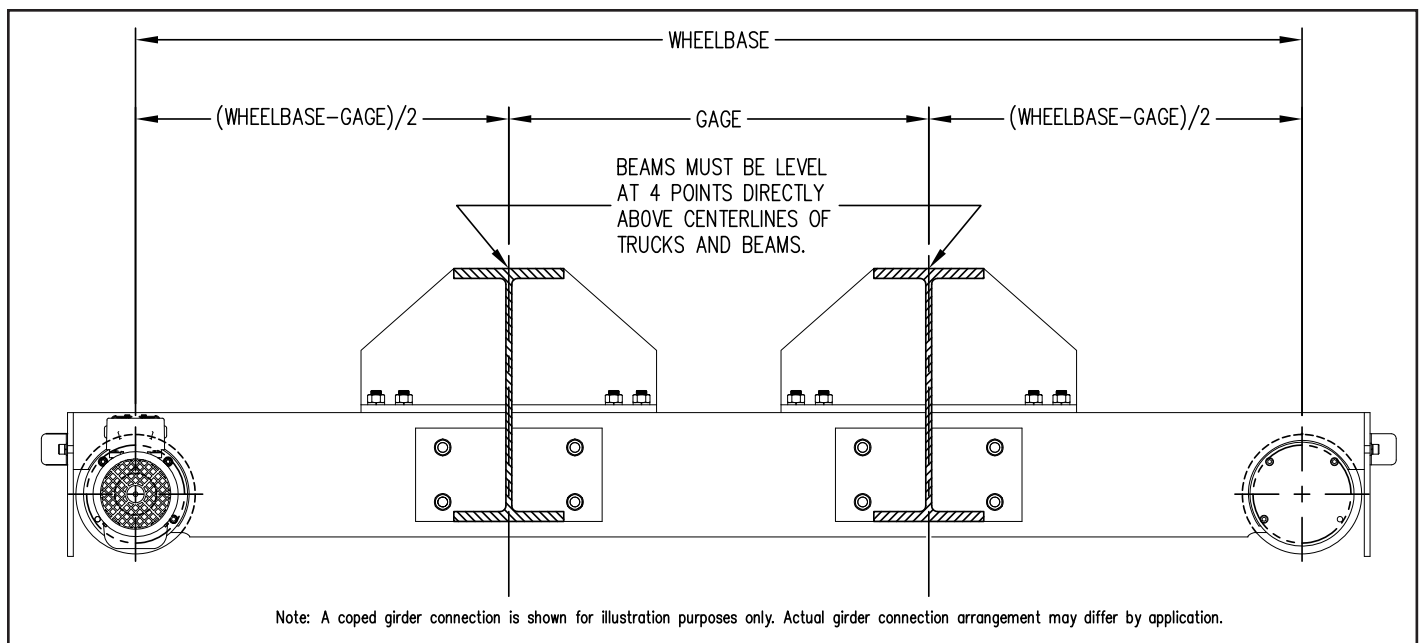

Figure 6. Method of Setting End Truck to Girders
After preparing the connection plates for welding, weld the girder beam on the top connection plate for top mounted girders. For coped girders, weld the girder on both the top and side mounted connection plates. Bottom of the girder beam shall not be below the bottom of the side connection plate as shown in figure 6.
When setting up the beams on supports, make certain that **the top flanges at the trucks are level** as shown in figure 6.
2. Locate end trucks in the notch of the girders, one at each end of the girders. Make certain girders are level with each other and are level at the four points as shown in figure 6.
After preparing the connection plates for welding, weld the girder beam on the top connection plate for top mounted girders. For coped girders, weld the girder on both the top and side mounted connection plates. Bottom of the girder beam shall not be below the bottom of the side connection plate as shown on figure 6.